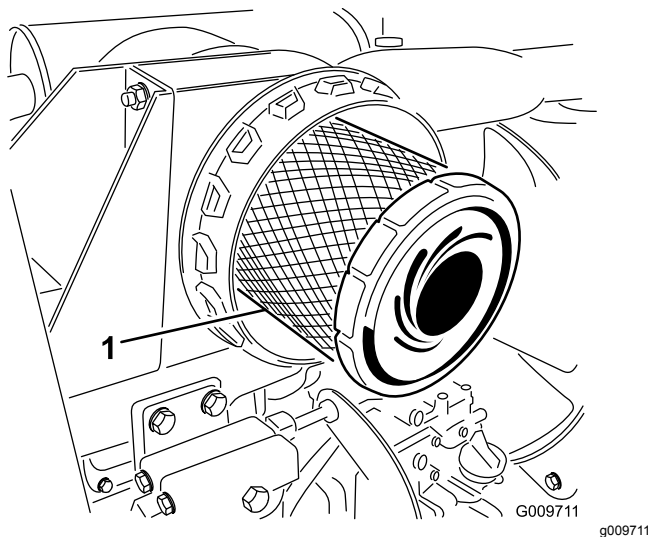

Figure 29
3. Remove and replace the primary filter (Figure 29).